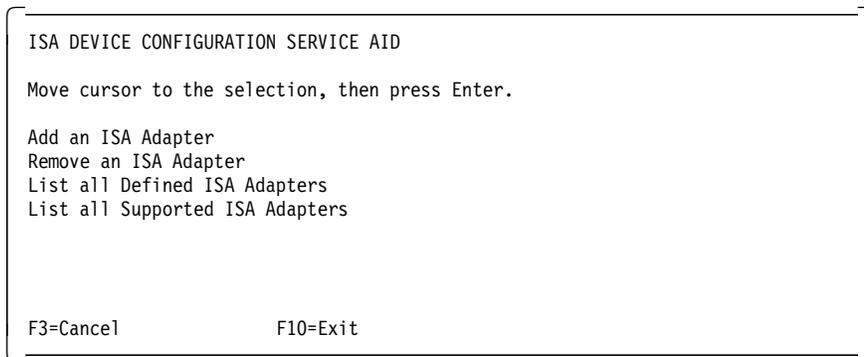

Figure 57. ISA Adapter Service AID Diagnostic Menu
4. Select **ISA Adapter Configuration Service Aid**. This will provide you with a menu like the one shown in Figure 57 on page 209.